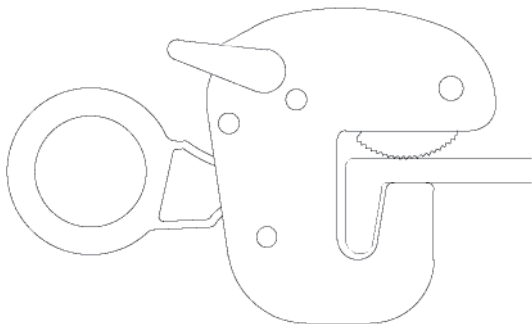

Figure 10
3. Place the jaw of the lifting clamp around the material to be lifted. Make sure the clamp is positioned so the gripping surfaces are in full contact with the material. For the “**VL-Channel**” model, refer to Fig. 10 for proper material loading. Center the clamp so the load is balanced when lifted.